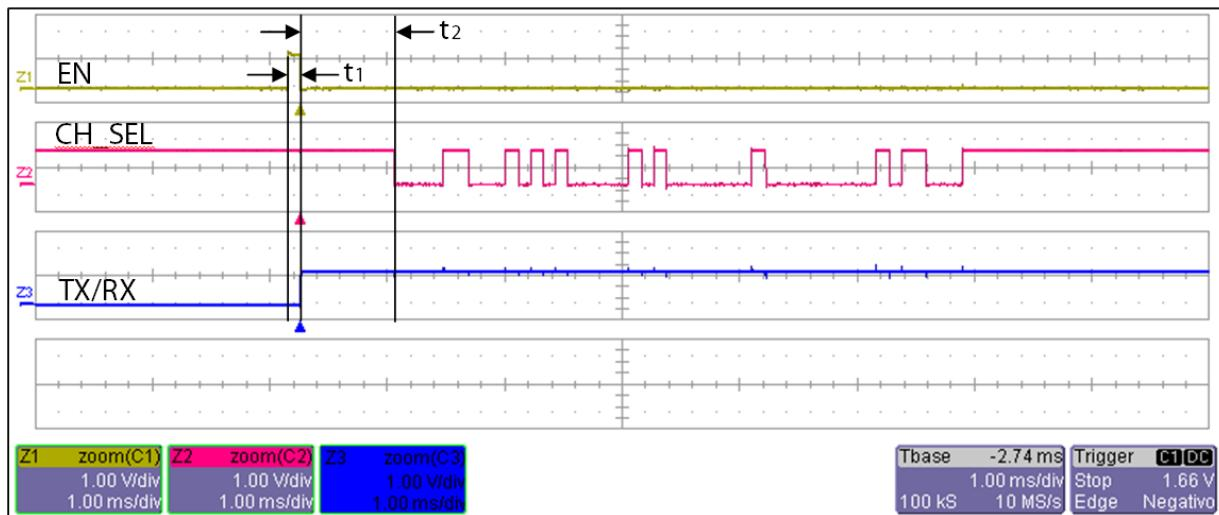

Figure 1: timings. $80\mu\text{s} < t1 < 120\mu\text{s}$; $t2 > 4\text{ms}$
- generate a high pulse **t1** with a duration within **80 µs and 120 µs** on **EN** line (see Figure 1).
The time **t2** between the end of the pulse on EN line and start of data transmission on CH_SEL must be at least **4 ms** (see Figure 1).